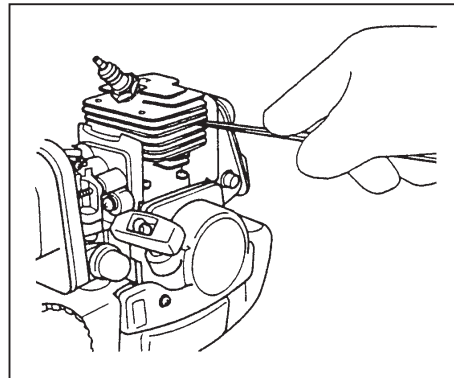

Fig. 3-4B
**Cylinder (Engine cooling) (Fig. 3-4B)**